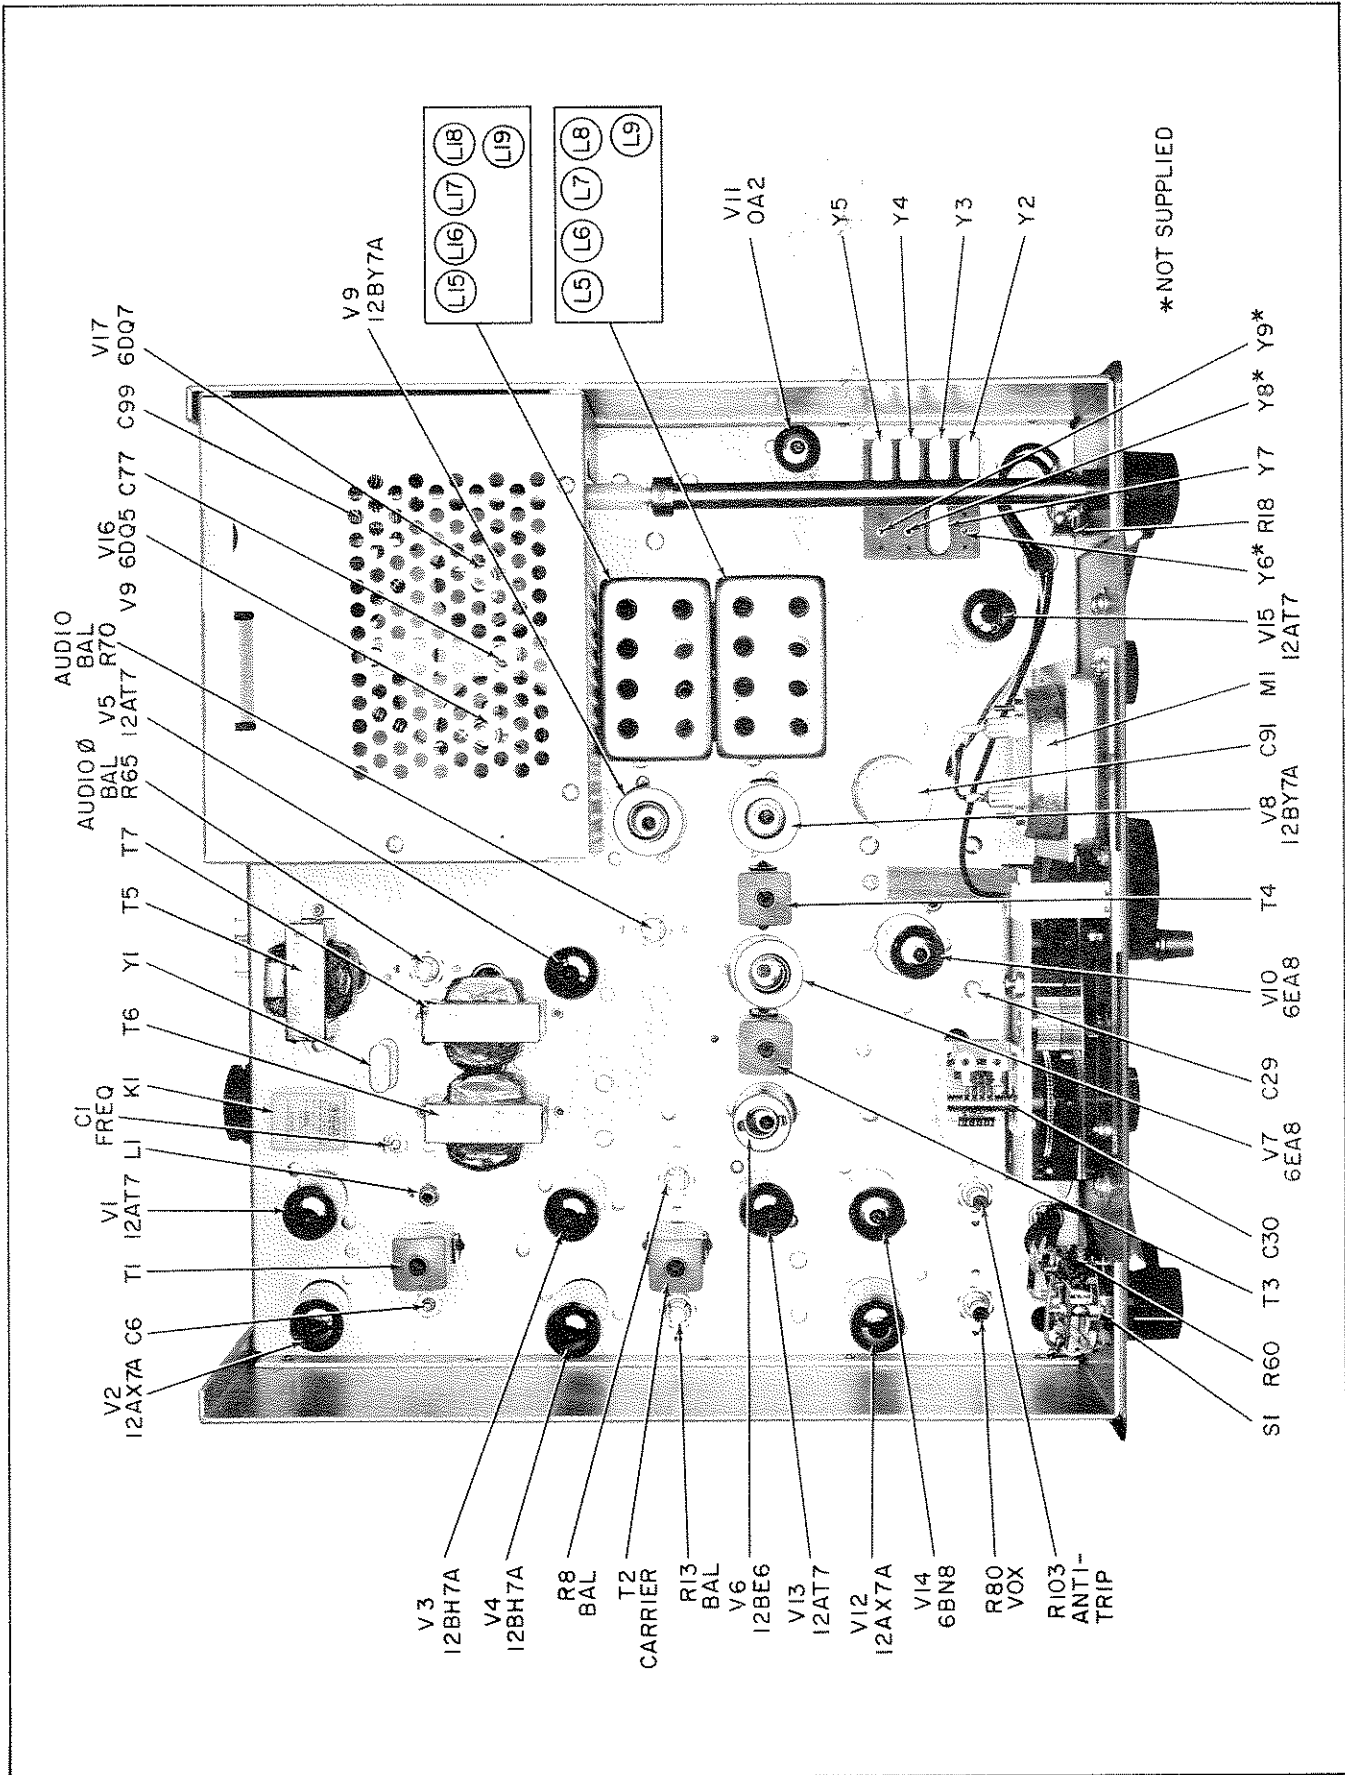
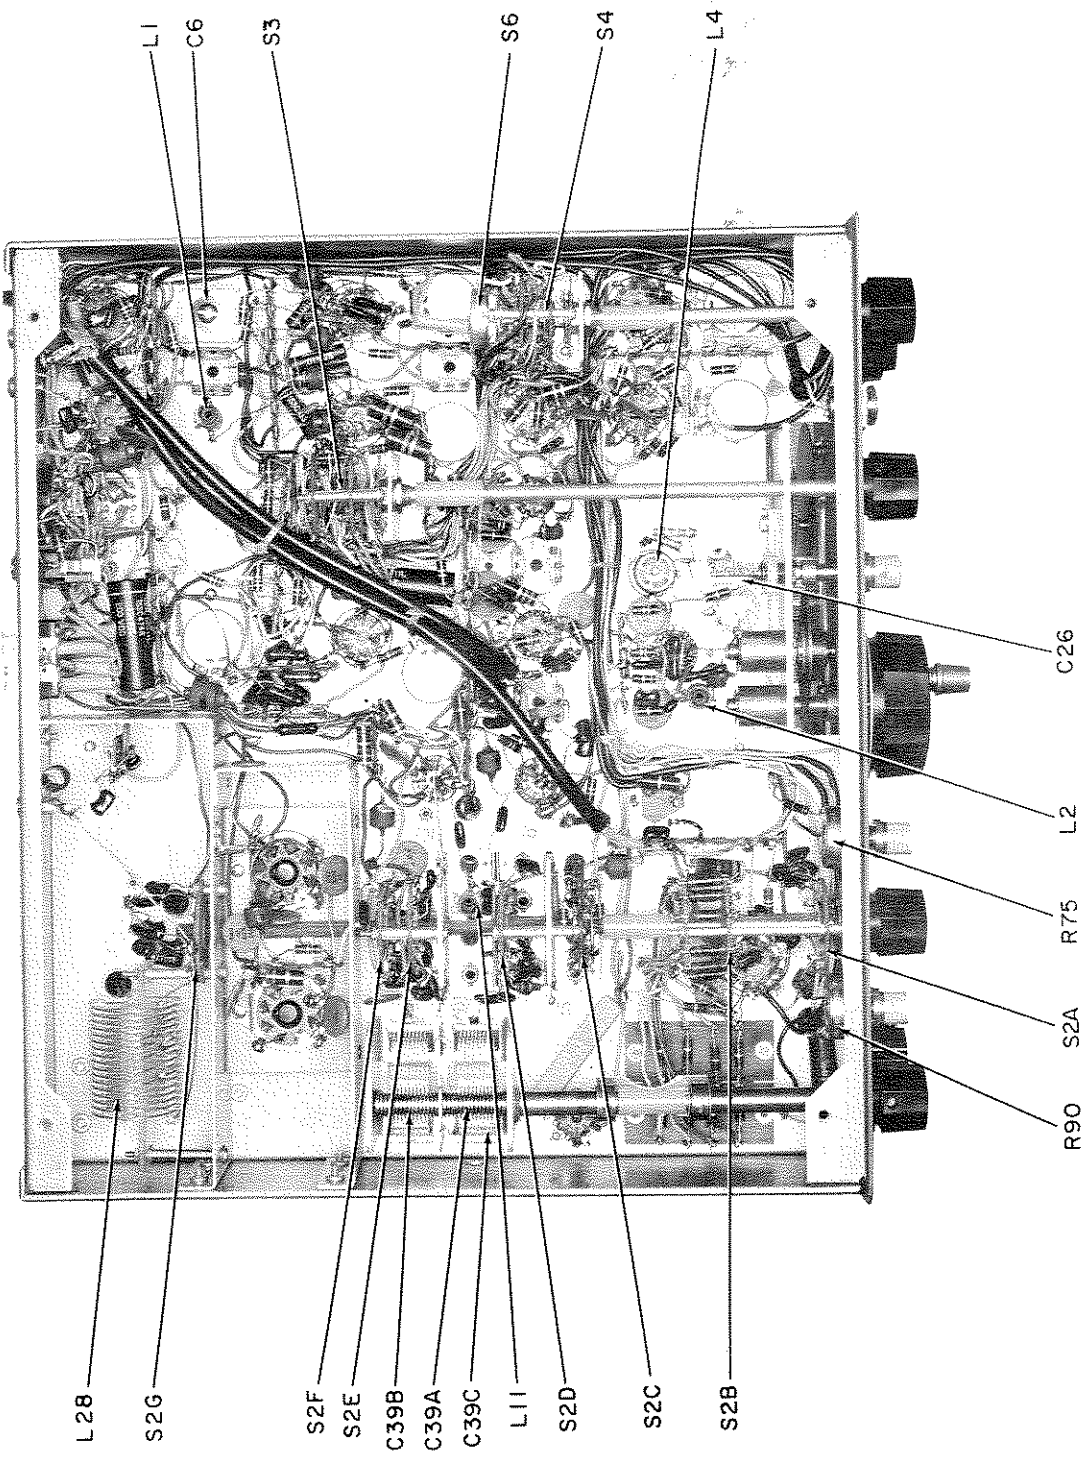

Figure 14. Top Chassis View Showing Component Locations.
Figure 15. Bottom Chassis View, Showing Components.
13. Carefully adjust warping trimmer C1 in the HT-44 for zero beat. This trimmer is located near the top, left, rear corner of the chassis. (See figure 14.)
Do not make any adjustments unless the operation of this transmitter is fully understood and adequate test equipment is available. Refer to figures 14 and 15, the top and bottom views of the transmitter, for the locations of all adjustments.
3. 10-Meter Alignment. - Tune the Signal Generator to 28.0 MC. Set the FINAL TUNING control to the low end of the 10-meter segment (approximately 8 on the inner scale) and the DRIVER TUNING control also to the low end of the 10-meter segment (approximately 8 on the inner scale). Increase the signal generator output level until a small indication is noted on the HT-44 RF output meter. Tune the FINAL TUNING control for maximum output indication. Adjust the cores of coils L5 and L15 (see figure 14 for location) for maximum output, reducing the signal generator output level as required to keep the meter reading at half-scale or less. Set the signal generator to 29.7 MC. Set the FINAL TUNING control to the high end of the 10-meter segment (approximately 9-1/2 on the inner scale) and set the DRIVER TUNING control to the high end of the 10-meter segment (approximately 9-1/2 on the inner scale). Adjust trimmer capacitor (C39C) located on the side of C39A (see figure 15) for maximum output while slightly rocking the DRIVER TUNING control. Return the signal generator to 28.0 MC and repeat the above alignment until tracking is accomplished. (NOTE: Trimmer C39C should not be readjusted on the other bands.)
4. 15-Meter Alignment. - Tune the signal generator to 21.0 MC and set the FINAL TUNING control to the low end of the 15-meter segment (approximately 7-1/2 on inner scale). Set the DRIVER TUNING to the low end of the 15-meter segment (approximately 7 on the inner scale). Increase the signal generator output level until a small indication is noted on the RF output meter and adjust the FINAL TUNING control for maximum output, reducing the signal generator output level as required to keep the meter at half-scale or less. Adjust the cores of coils L6 and L16 (see figure 14 for location) for maximum output, reducing the signal generator output as required to keep the meter at half-scale or less.
7. 6.5-MC Trap Adjustment. - While on the 40-meter band, set the signal generator to 7.0 MC and adjust the FINAL TUNING and DRIVER TUNING controls for maximum output. Without changing the FINAL TUNING or DRIVER TUNING, reset the signal generator to 6.5 MC and increase the signal generator output level until a small indication is noted on the RF output meter. Adjust the 6.5-MC trap core, L11 (see figure 15 for location) for minimum output, increasing the signal generator output as required. A slight readjustment of L8 may be required after this adjustment.
Proceed as follows: Set the CAL. ADJ. trimmer to mid-range (dot up). Set the OPERATION switch to CAL. Set the BAND SELECTOR to 3.5 MC (80-meter). Tune the receiver to 3.5 MC on the 100-KC marker signal (BFO off). Set the HT-44 TUNING CONTROL (dial) to the red 500 (3.5 MC). Carefully adjust trimmer C29 for zero beat (see figure 14 for location).
If the dial error progressively increases in the same direction with the high-frequency end running out more than 3000 CPS, at this end, both L4 and C29 should be adjusted. Proceed as follows: Set the TUNING dial to 4.0 MC (red 1000) and the Receiver to 4.0 MC. Adjust the slug of L4 (see figure 15 for location) to zero beat. Set the TUNING dial to 3.5 MC (red 500), the receiver to 3.5 MC, and adjust C29 for zero beat. Repeat the adjustments at 4.0 MC and 3.5 MC until both points are on frequency.
Remove V15 (12AT7) from its socket to disable the heterodyne oscillator signal. Connect the probe of the RF voltmeter to the grid of the Second Mixer (pin 2 of V8). Set the FUNCTION switch to CW and the OPERATION switch to MOX. Set the BAND SELECTOR to any 10-meter segment. Set the TUNING control dial to 250 and advance the RF LEVEL control until a small indication is noted on the RF voltmeter. Adjust the core of the VFO output coil (L2, See figure 15) for maximum reading. Set the TUNING control to 450 on the dial. Advance the RF LEVEL control until approximately 0.5 volt RMS is indicated on the RF voltmeter (HP 410 B or equal). Adjust top and bottom cores of IF transformers T3 and T4 for maximum voltmeter indication, keeping the level below 1 volt to prevent overload and false settings. After the transformers have been adjusted as described, increase the RF LEVEL control until 1 volt is indicated on the voltmeter. Tune the VFO (TUNING) across its range (0 to 500) while watching the voltmeter. The voltmeter should read between 0.8 and 1.0 volt over the entire range of the dial (0 to 500). After completion of this alignment, be certain to replace V15 (12AT7) in its socket.
Adjust the RF LEVEL control for about 60 volts RMS output (60 on the HT-44 RF output meter). Carefully tune the FINAL TUNING control and observe the plate current dip and the output voltage peak. If both occur at the same setting, the amplifier is neutralized. If both do not occur together, adjust the neutralizing capacitor, C77 (see figure 14), in small increments (1/4 to 1/2 turn) until neutralization is accomplished.
When the HT-44 is used as an independent transmitter/exciter, there is normally no need for adjustment of the carrier frequency trimmer C1 (see figure 14 for location). However, when the HT-44 is to be used in conjunction with an SX-117 receiver as a transceiver, the carrier frequency trimmer C1 must be set correctly. For this procedure, see Section VII, TRANSCEIVE (SLAVE) OPERATION.